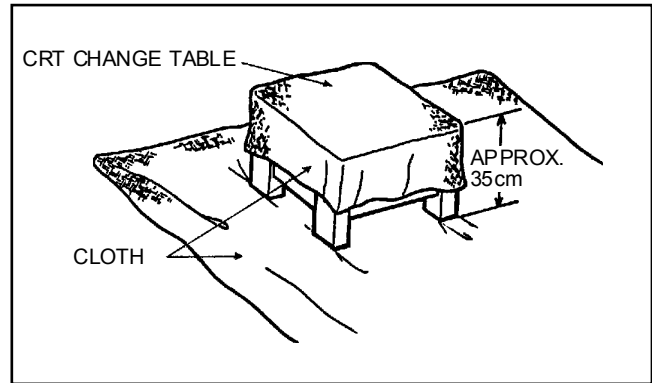

Fig. 3
- 1. Putting the CRT change table on soft cloth, the CRT change table should also be covered with such soft cloth (shown in Fig.3).
- \* The CRT change table should preferably be smaller than the CRT surface, and its height be about 35cm. (Fig.3)